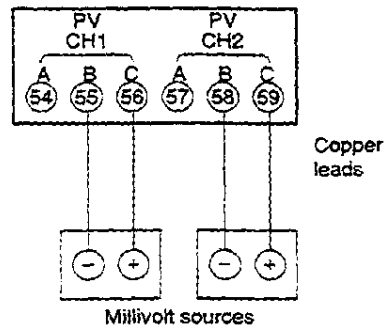

Figure 12-10. CJ, O2 Sensor
- ① Press **SETUP** key until the PROG/SEG display shows (02-01).
- ② Connect the millivolt source between  $\ominus(-)$  and  $\oplus(+)$ , and then input 0.2V (See Figure 12-10).
- ③ Press **ENTER** key after display stabilizes, AD count is shown on lower display.
- ① Press **SETUP** key until the PROG/SEG display shows (02-02).
- ② Connect the millivolt source between  $\ominus(-)$  and  $\oplus(+)$ , and then input 1.0V (See Figure 12-10).
- ① Press **SETUP** key until the PROG/SEG display shows (02-05).
- ① Press **SETUP** key until the PROG/SEG display shows (02-06).